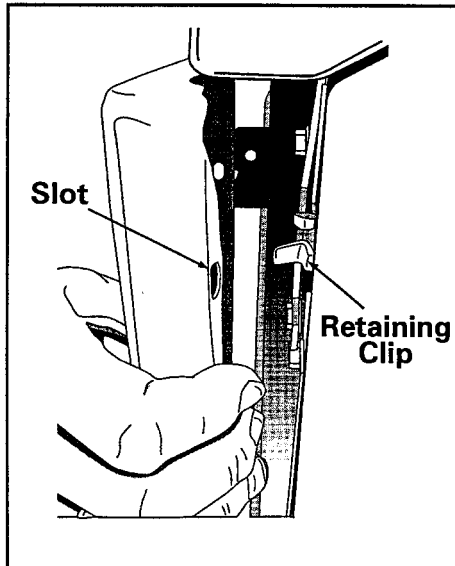

Figure 5-3
- The front panel is held to the cabinet by means of clips secured to the front shroud. Small slots in the front panel engage the clips and hold the front panel in place. (See Figure 5-3) To remove the front panel, grasp the goal posts of the front panel 3/4 of the way down and pull front panel away from the dryer.